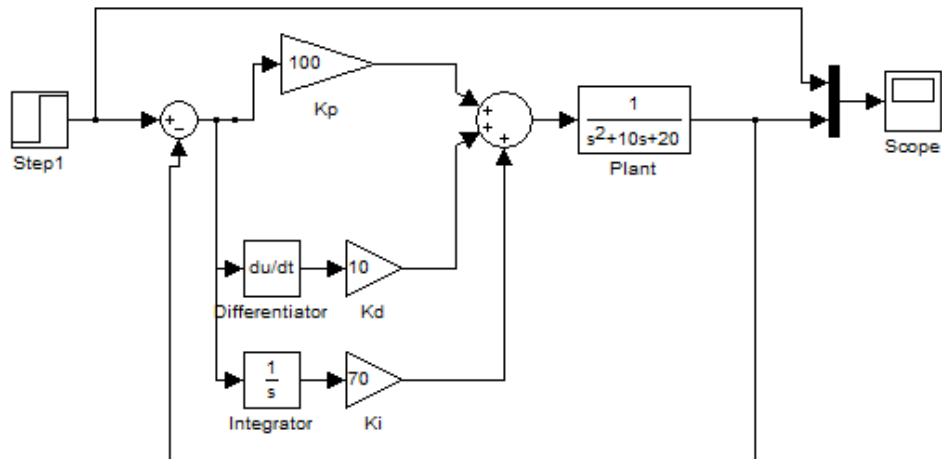

Fig. 11. Closed loop system with PID controller
- m. Model a PID controller with $K_p=100$, $K_d=10$ and $K_i=70$ for the second order closed loop system in Fig. 11 and plot the outputs. Here, MUX is used to plot both input and output in the same graph.